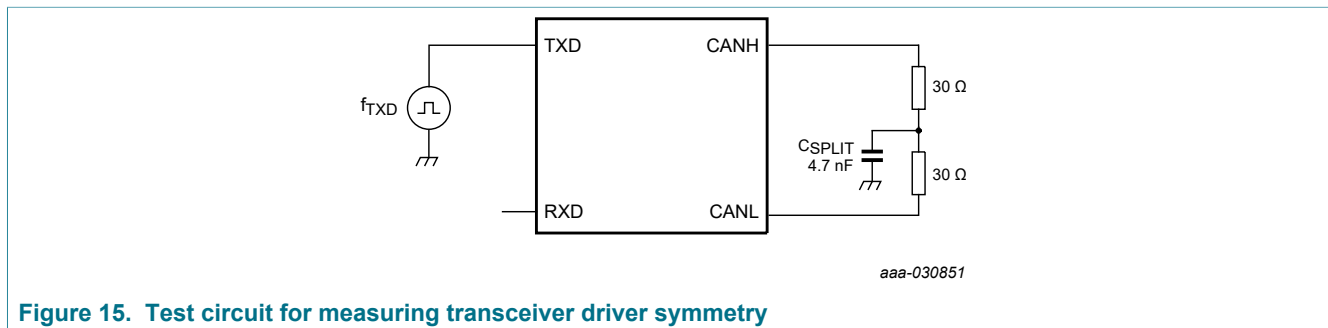

Figure 15. Test circuit for measuring transceiver driver symmetry
- [5] The test circuit used to measure the bus output voltage symmetry and the common-mode voltages (which includes C_{SPLIT}) is shown in Figure 15.